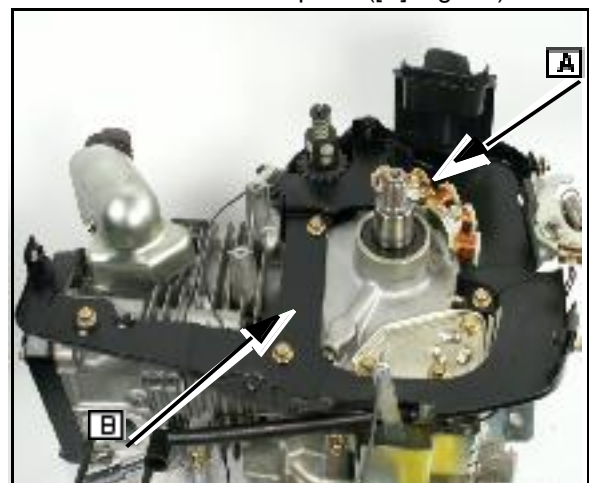

Fig. 10
1. Remove the alternator (if equipped) assembly ([A] Fig. 10).
2. Remove the back plate ([B] Fig. 10).